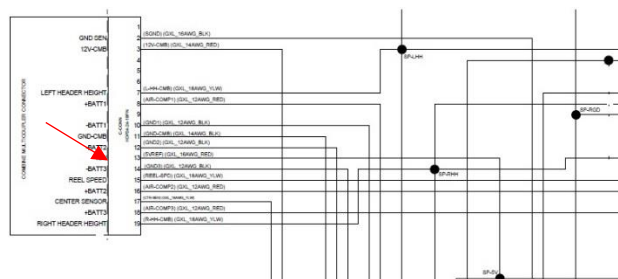

Figure 128
10. If there is no ground connection at pin 1 check for continuity between Pin 1 and pin 2 on the main harness. Figure 128